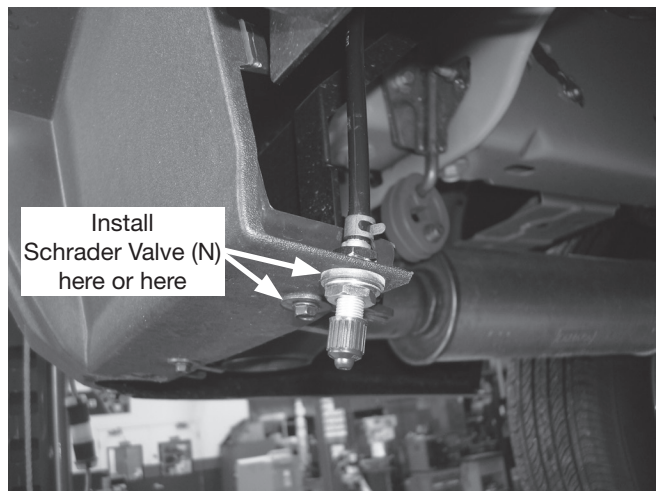
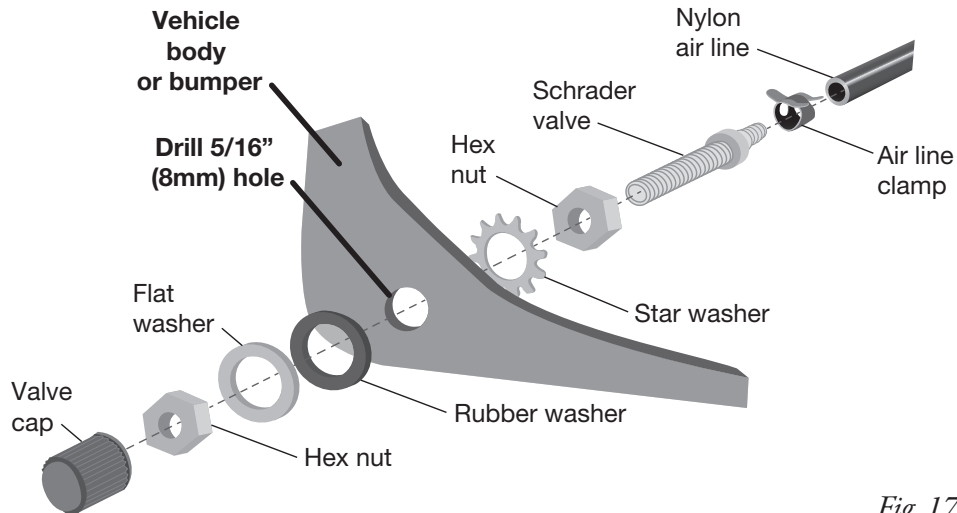

Fig. 11
Fig. 17
8. With both of the air lines routed to the back as shown, again following the air line instructions in the installation guide and for an example, if running a single fill air line, install the tee fitting (M) on the back side of the slot shown in Figure 10. Use the small hole at the bottom of the bumper or remove the small screw and clip nut behind it, enlarge either hole to 5/16" using a drill and bit. Then mount the Schrader valve (N) in this location (Fig. 11). Follow Figure 17 for proper sequence and parts for proper Schrader valve installation.
- Drill a 5/16" (8mm) hole for the Schrader valve and mount as shown (Fig. 17). Install the air line on the Schrader valve first. The rubber washer (L) serves as an outside weather seal.